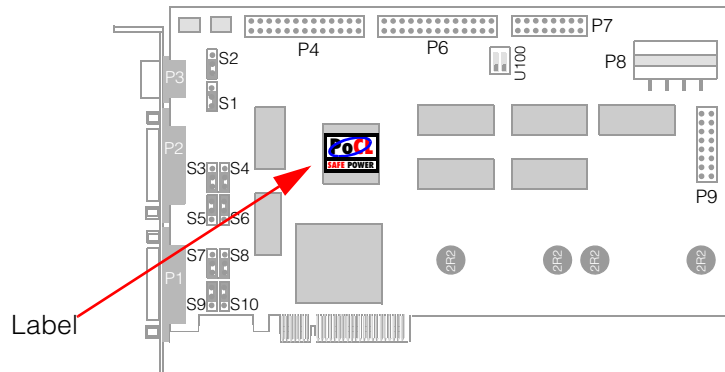

Figure 8. MVS-8602e PoCL labeling
- **Labeling:** MVS-8602e boards that support PoCL are labeled with the PoCL logo, as shown in Figure 8.